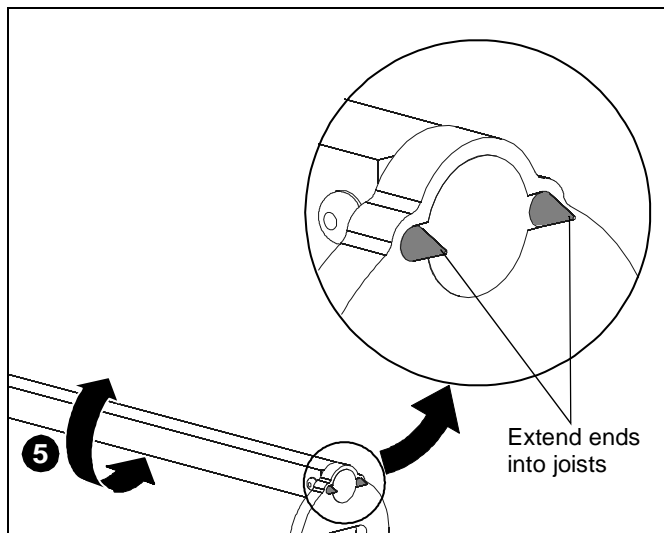

Figure 2
5. Turn the square rod so ends of assembly extend into the joists. (See Figure 2)